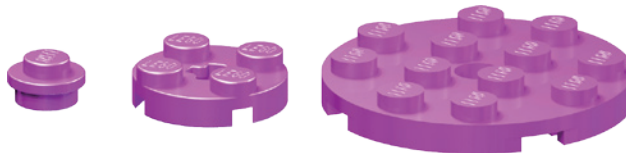

Figure 1-15: A pip sits next to the only other two elements like it in the entire system: the 2×2 and 4×4 cylinder plates.
*Cylinder plates* are just shorter versions of their full brick-height cousins. The tiny 1×1 cylinder plate (sometimes called a *pip*), the 2×2 cylinder plate, and the 4×4 cylinder plate (all shown in Figure 1-15) are the only elements in this tiny subcategory.